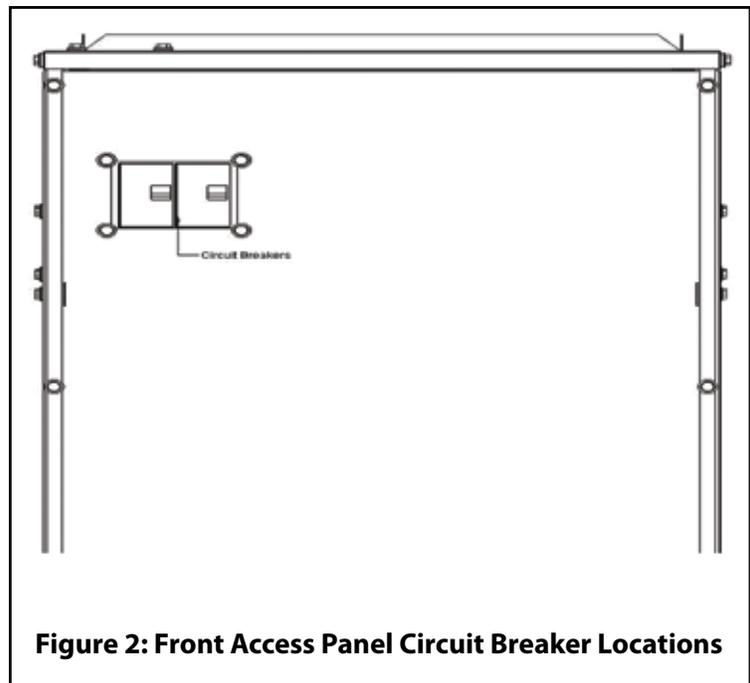

Figure 2: Front Access Panel Circuit Breaker Locations
- 4. Turn the circuit breaker(s) located on the front panel of an electric heat air handler to "ON" position (See Figure 2).
- 3. Turn the circuit breakers on the front of an electric heat air handler to the "OFF" position (See Figure 2).